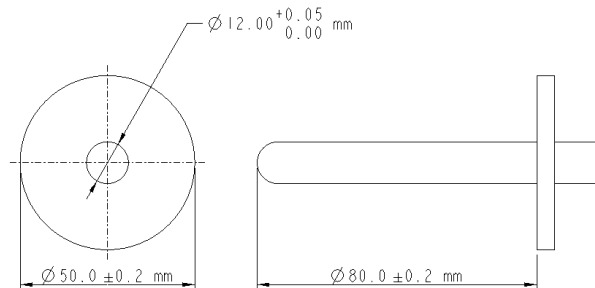

FIGURE 4 DIMENSIONS OF UL Probe
- a. Test probe (Figure 4)
The Test probe may not make contact with energized parts while the access doors and covers of the system enclosure are open. Separable connectors must be disconnected for this test. The figure 4 shows the dimensions of the Test probe.